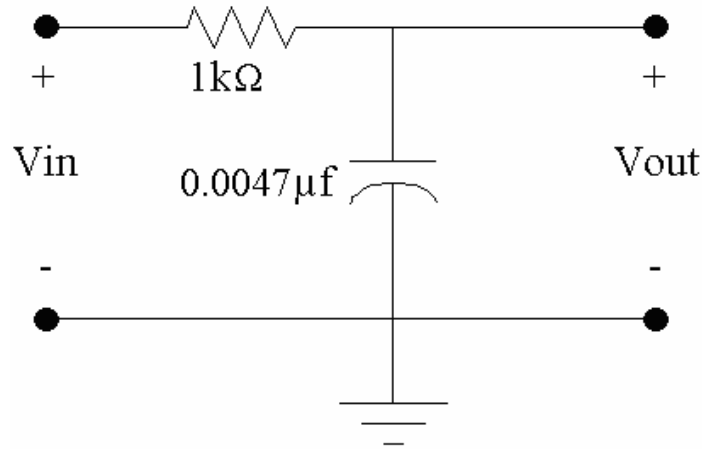

Figure 4. Low pass RC filter.
The first circuit that you will study is the low pass filter shown in Figure 4. If you think of a capacitor as being a resistor with a complex “resistance” (called an “impedance”), then this circuit is a complex voltage divider. Its (complex) transfer function is
- Obtain Eqs. (6) and (7) from Eq. (5). Using the values for  $R$  and  $C$  from Figure 4, calculate the expected characteristic frequency  $\omega_o$  for the low pass filter.